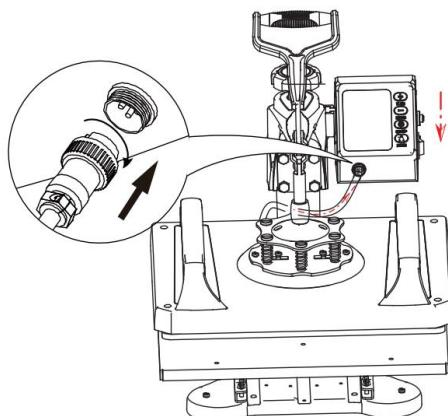

Fig 9
9.Clip the controller into the head slot from top to bottom, connect the male head of the heating platen with the female head of the control controller, and lock the nut to complete the installation (as shown in figure 9 ).